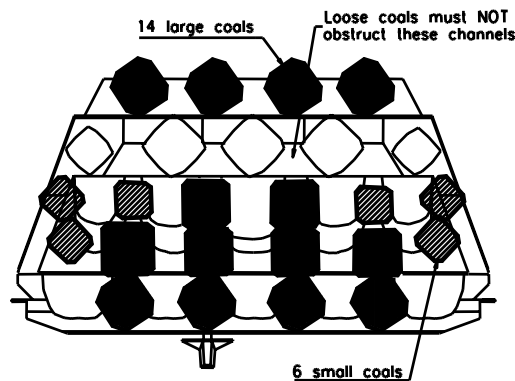

Fig. 5 Placing the loose coals
6. Remove the coals from the bag; note that there are 2 sizes supplied with the burner. Place them on the ceramic blocks in accordance with Fig. 5.